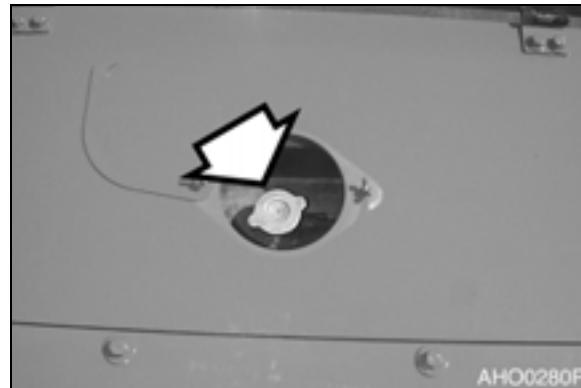

Figure 19
1. Remove fill cap from radiator (Figure 19). Check level of coolant inside radiator. If low, add coolant to fill radiator to a point that is 10 – 20 mm (1/2 – 3/4") below top of overflow pipe. If temperature is below freezing, see "Check Antifreeze Protection Levels" on page 4-14 for antifreeze protection. Use the table to calculate a proper mixture of anti-freeze and water to provide level of protection necessary for expected temperature.